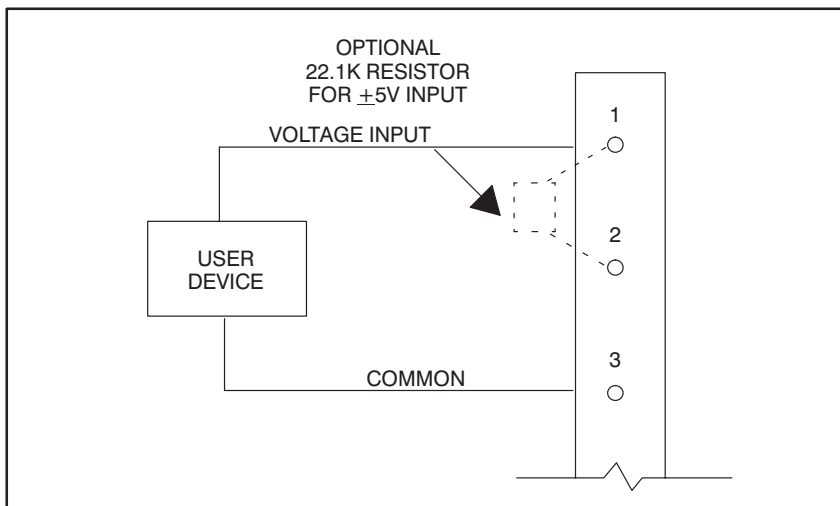

Figure 3.1 - Typical Field Signal Connections
| Figure 3.1 | - Typical Field Signal Connections | 3-1 |
- Step 3. Fasten field wires to the terminal strip. Typical field connections are shown in figure 3.1.